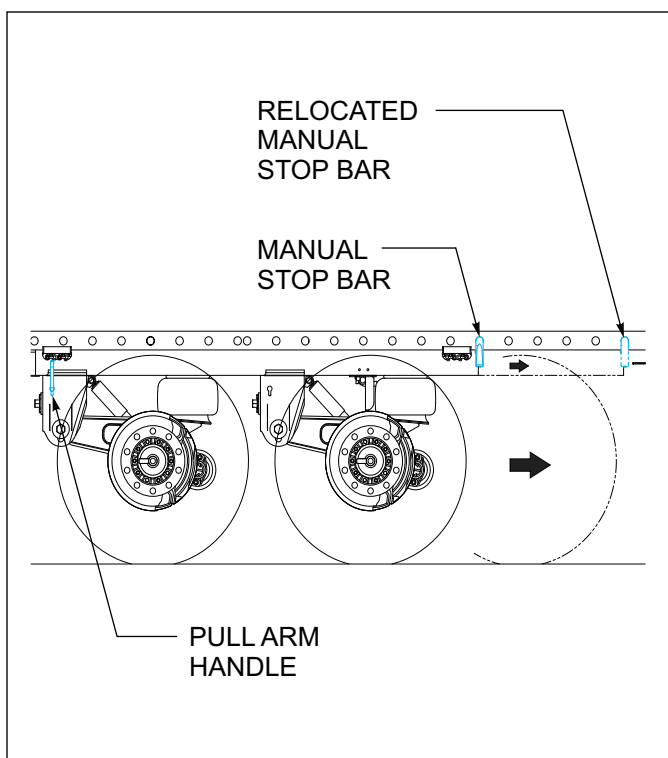

Figure 3-4: Slider Repositioning
1. With the vehicle on a level surface, set the tractor and trailer brakes and locate the slider release pull arm handle or air release control valve (**See Figure 3-4.**)
2. To reposition the slider, remove the manual stop bar and relocate to desired location – rearward of slide box if moving rearward, or forward of slide box if moving forward (**See Figure 3-4.**)
9. When the lock pins have disengaged - slowly reposition the tractor until the slide box contacts the manual stop bar (See Figure 3-4.)